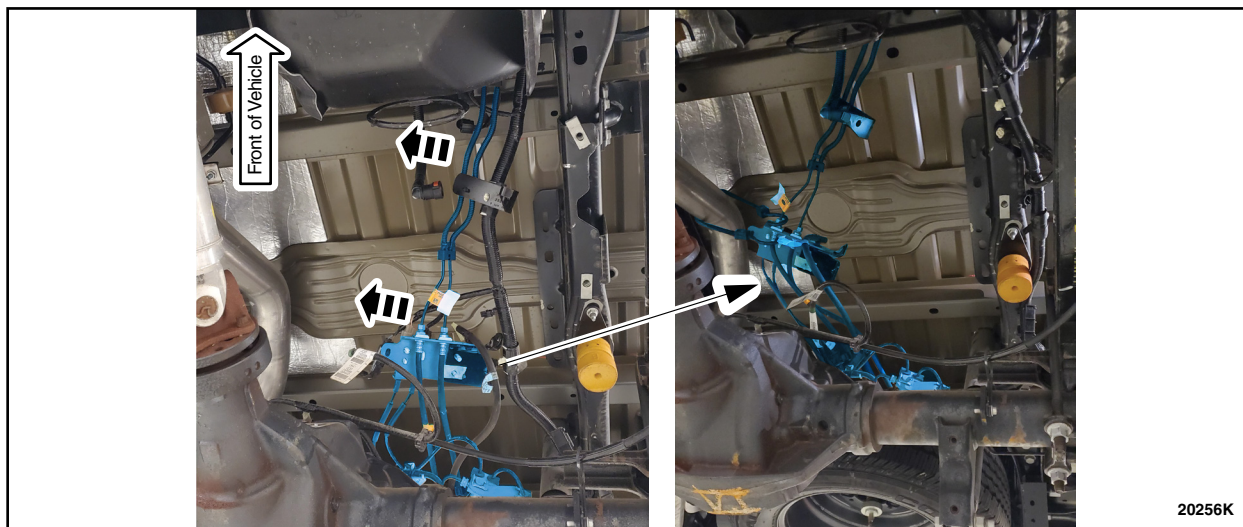

FIGURE 12
16. Position the brake line bundle aside using a bungee cable or something similar to create a large enough repair area to work in. See Figure 12.